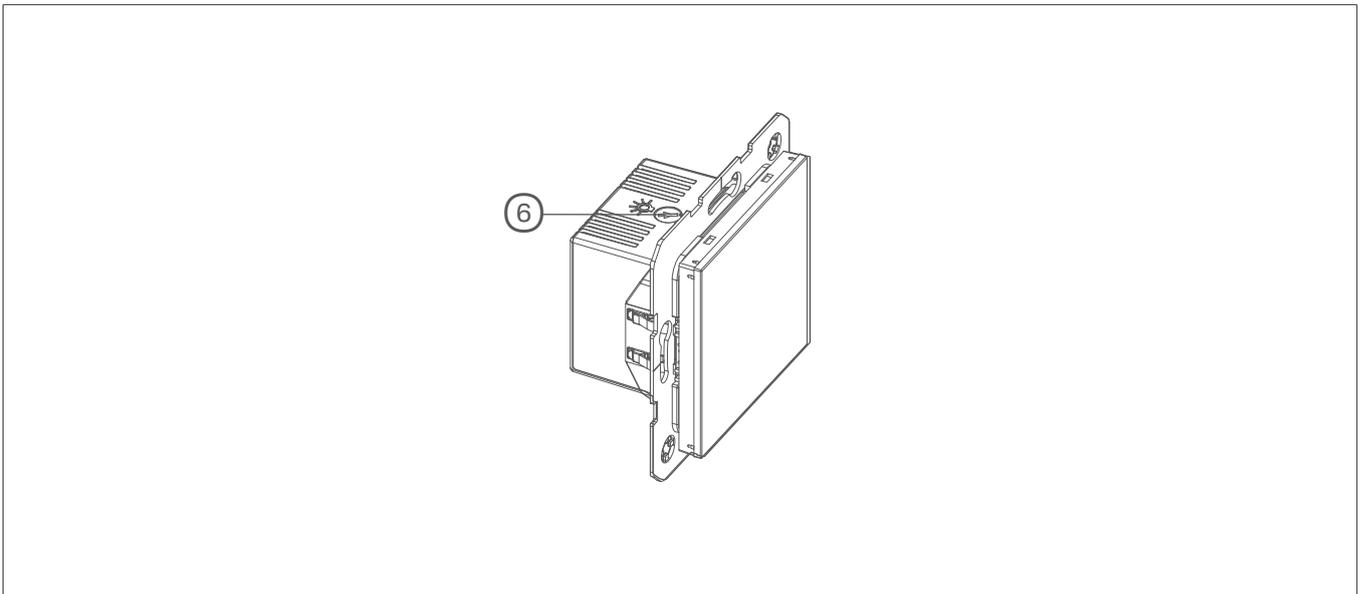

Fig. 5: Brightness adjustment
In the as-delivered state, the potentiometer (Fig. 5, (6)) is set to maximum brightness.
- ① Switch off mains voltage.
- ② Pull of centre piece (5) from the supporting ring.
- ③ Remove (2) frame.
- ④ Release the supporting ring from the wall box.
- ⑤ Pull the insert (1) out of the wall box.
- ⑥ Adjust the potentiometer (6) (Fig. 5).
- ⑦ Reinsert the insert into the wall box and screw tightly over the supporting ring.
- ⑧ Position the frame (2) over the supporting ring of the insert.
- ⑨ Snap on (5) centre piece.
- ⑩ Switch on the mains voltage.